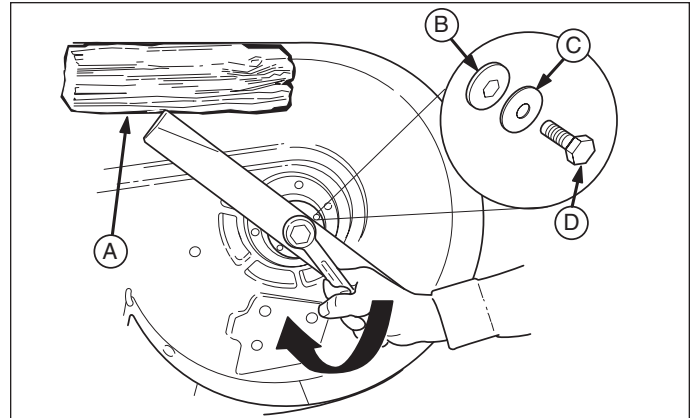

Figure 8. Blade Installation
1. Check that blades are installed with the tabs pointing up toward deck as shown in Figure 8. Secure with a capscrew, spring washer and spline/hex washer (be certain the spline/hex washer is aligned with the shaft). Use a wooden block to prevent blade rotation and torque capscrews to 45-55 ft.lbs. (61-75 N.m.).